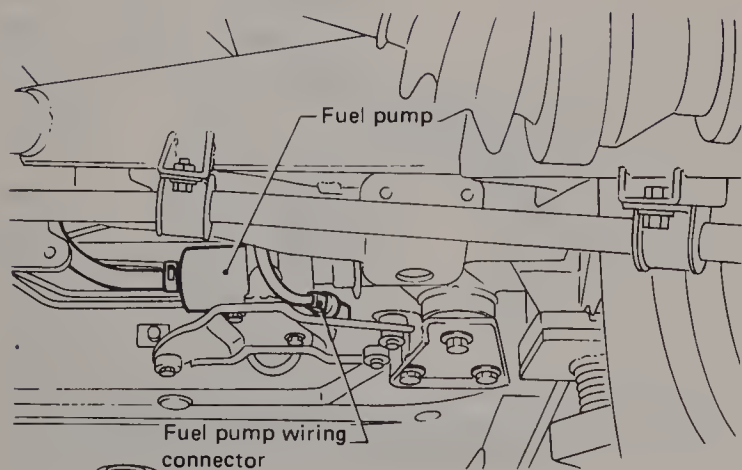

Fig. 13.7 Raise the vehicle and disconnect the fuel pump wiring connector (Sec 5)
- 2 If equipped with fuel injection, raise the vehicle, support it securely on jackstands and disconnect the fuel pump wiring connector (Fig. 13.7).